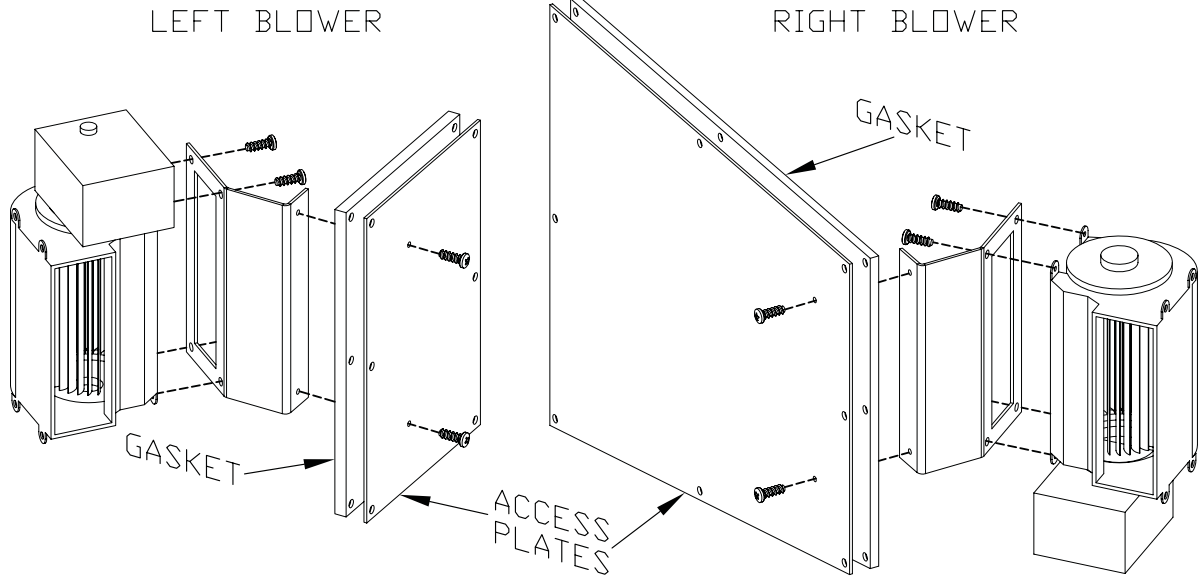

Figure 30 - Assembling Blowers to Access Plates.
8. Two screws are already mounted to each cover which would be utilized to mount the blower to the plate. Unfasten the two screws and mount the blower bracket assemblies. See Figure 30.